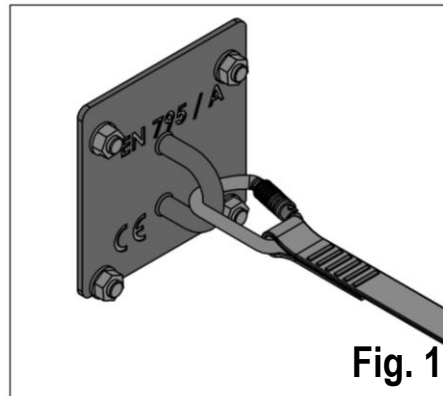
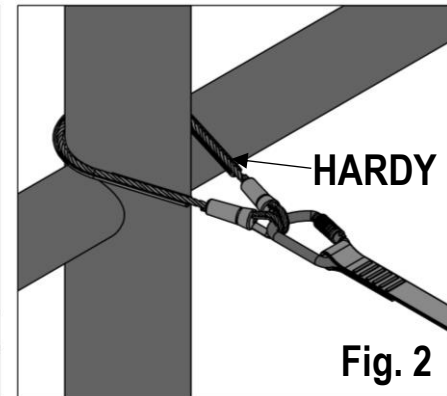

Fig. 1
Fig. 2
- EN 795 type A certified anchor points (Fig.1) that are capable to provide the minimum breaking strength required!
- Certified anchor sling (EN 795 type B) wrapped around a suitable anchor structure (Fig.2). Make sure that the anchor structure can provide the required minimum strength, the shape and dimensions will provide a safe a reliable connection and there are NO sharp edges!
- Attach the two end connectors accordingly! (Check Fig .1 , Fig 2 and CONNECTORS section)
- Set the ratchet to "OPEN" position (1) and rotate the main shaft (2) so the webbing can slide freely. Make sure that the webbing is not twisted and apply slight tension by hand (3). Pull the handle up and down (4) to apply tension to the line while holding the free end taut. Make sure the tensioning has resulted in about 3 windings over the main shaft and the line is firmly tensioned to  $1\text{ kN} \pm 20\%$  (5). Set the handle in the "CLOSED" position (6).